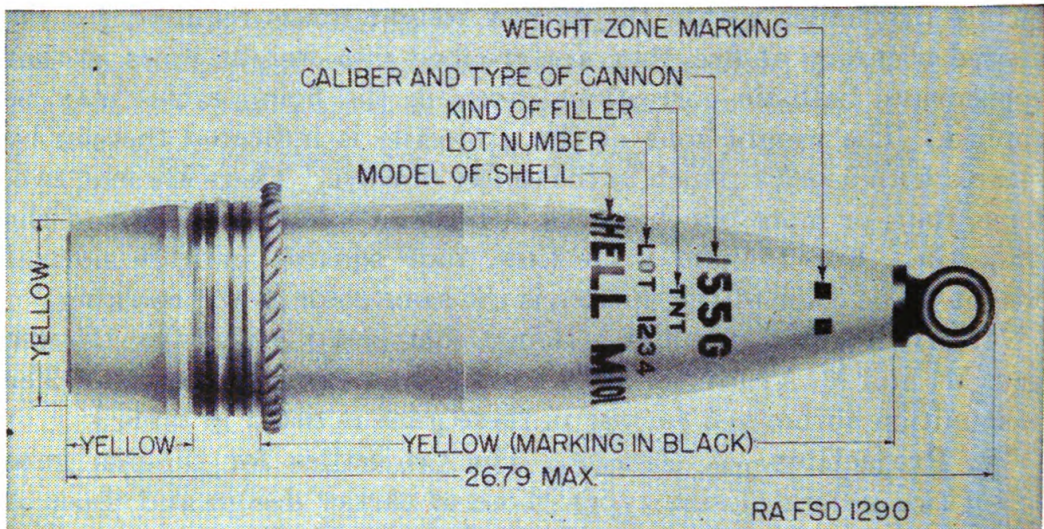

FIGURE 54.—Shell, HE, M101, unfuzed, 155-mm gun (adapted for fuze, PD M51).
**70. Identification and marking.**—Ammunition, including components, is completely identified by means of painting, marking, accompanying ammunition data cards, and linen tags. Other essential information, such as weight zone, kind of filler, weight of igniter, and muzzle velocity, may also be obtained from the marking and data cards. (See figs. 54 and 55 and *a* to *e* below.)
*b. Ammunition lot number.*—(1) For separate loading ammunition a lot number is assigned and marked on each of the components. It is required for all purposes of record, including reports on condition, functioning, and accidents in which ammunition is involved. To insure uniform functioning, all components in any one lot of separate loading ammunition are manufactured under as nearly identical conditions as possible and assigned a lot number. The complete round consists of—
**71. Authorized rounds.**—Being chambered alike, the 155-mm guns M1 and M1A1 fire the same ammunition (figs. 54 and 55). The ammunition authorized for use in these guns is listed in table I.
*b. Description.*—The projectiles of current design (figs. 54 and 55), authorized for use in the 155-mm M1 and M1A1, and distinguished by the 2-inch wide rotating band as described above, are adapted for the new standard contour fuze with booster, such as the fuze, PD M51. It should be noted that in projectiles of current design the booster, instead of being a component of the projectile, is assembled to the fuze. These projectiles, which are boat-tailed (surface to the rear of the rotating band is conical) and have ogives of nearly 11 calibers, are similar in size and shape to other 155-mm projectiles, although readily distinguished therefrom by their marking and rotating bands. Projectiles for the 155-mm howitzers are marked 155 H; those for the 155-mm guns, 155 G. The howitzer projectiles have one narrow rotating band 0.60 inch wide; the gun projectiles have bands as described above. The weight zone is included in the marking on each projectile as described in paragraph 70. Explosive and chemical pro-